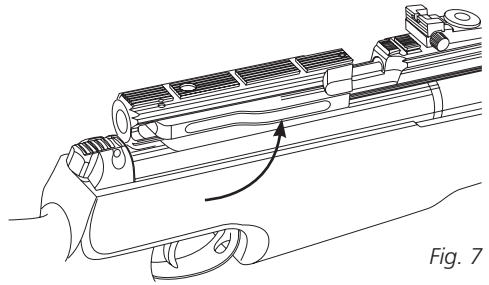

Fig. 7
2. Close the cocking lever as shown in Fig.7.